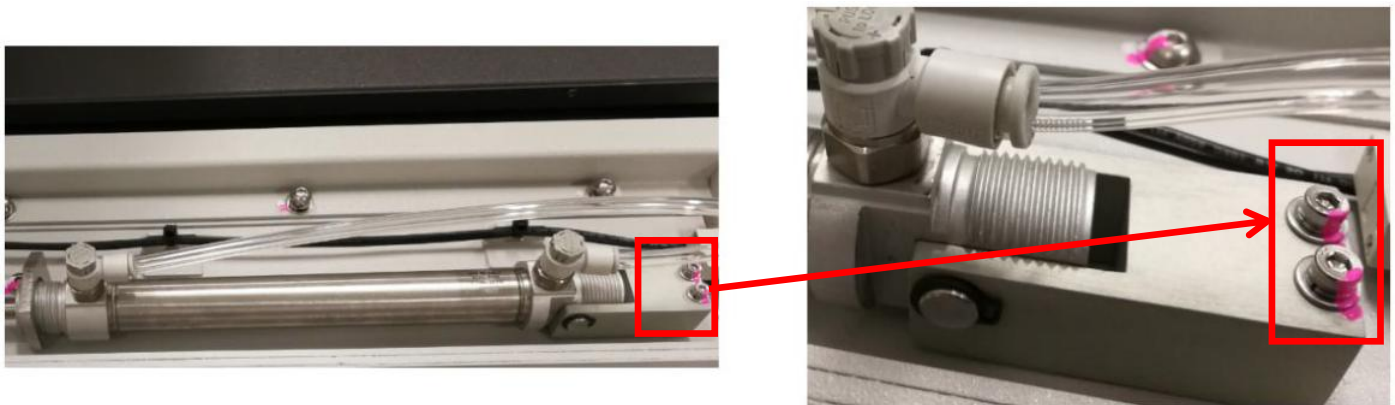

Figure 4
7. Loosen 2 x Screws & remove Rear Cylinder Holder as Figure 4